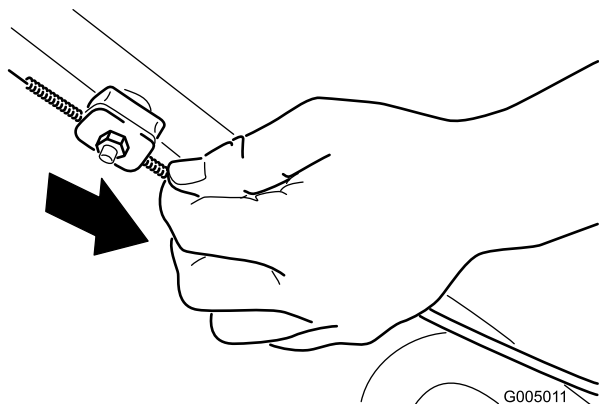

Figure 33
2. Pull down the cable jacket (toward the mower) until there is no slack in the cable (Figure 33).